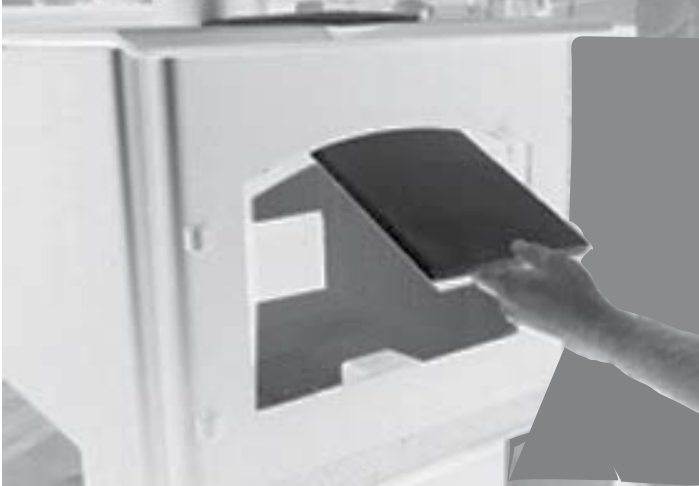

Figure 23.1 - Baffle
2. The baffle board has 2 pieces. With the ceramic blanket still in place, slide one baffle piece over the top of other one and pull out top piece through the door opening and then remove bottom baffle piece (**Figure 23.1**).